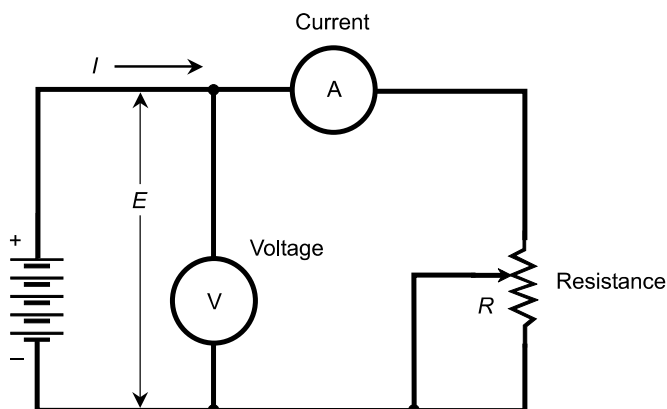

Fig. Test1-2. Illustration for Part One Test Questions 18 through 20.
18. Examine Fig. Test1-2. Suppose the battery supplies a voltage $E = 6$ V DC, and the current $I = 2$ A. What is the resistance R ?
19. In Fig. Test1-2, suppose the resistance $R = 120\ \Omega$ and the current $I = 100$ mA. What is the battery voltage?
20. In Fig. Test1-2, suppose the voltage across the resistor is 18 V. What is the current flowing through ammeter A?